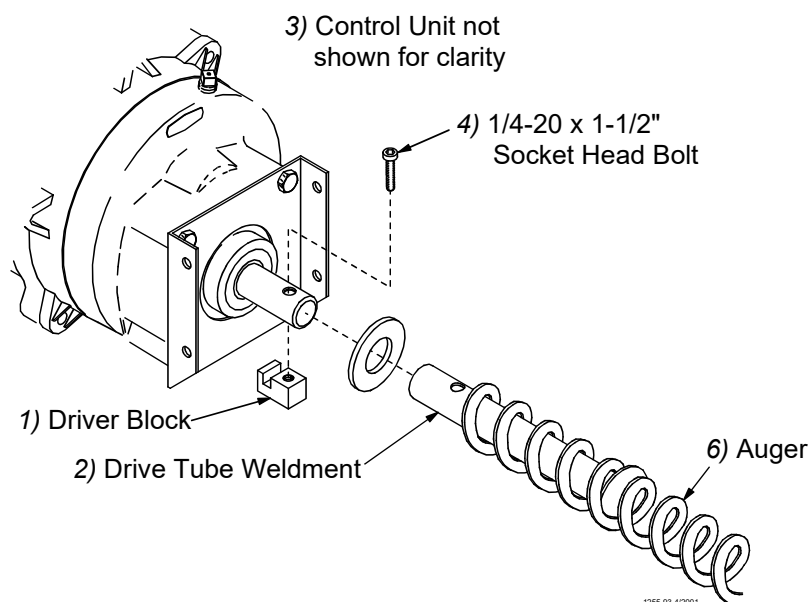

Figure 47. Auger Driver Components
4. Slide the Drive Tube and flat washer over the output shaft on the Power Unit, as shown in **Figure 47**.
6. Turn the Drive Tube Weldment into the auger, then attach to the output shaft of the Power Unit, as shown in **Figure 47**. Use the Driver Block to secure the auger to the Output Shaft.